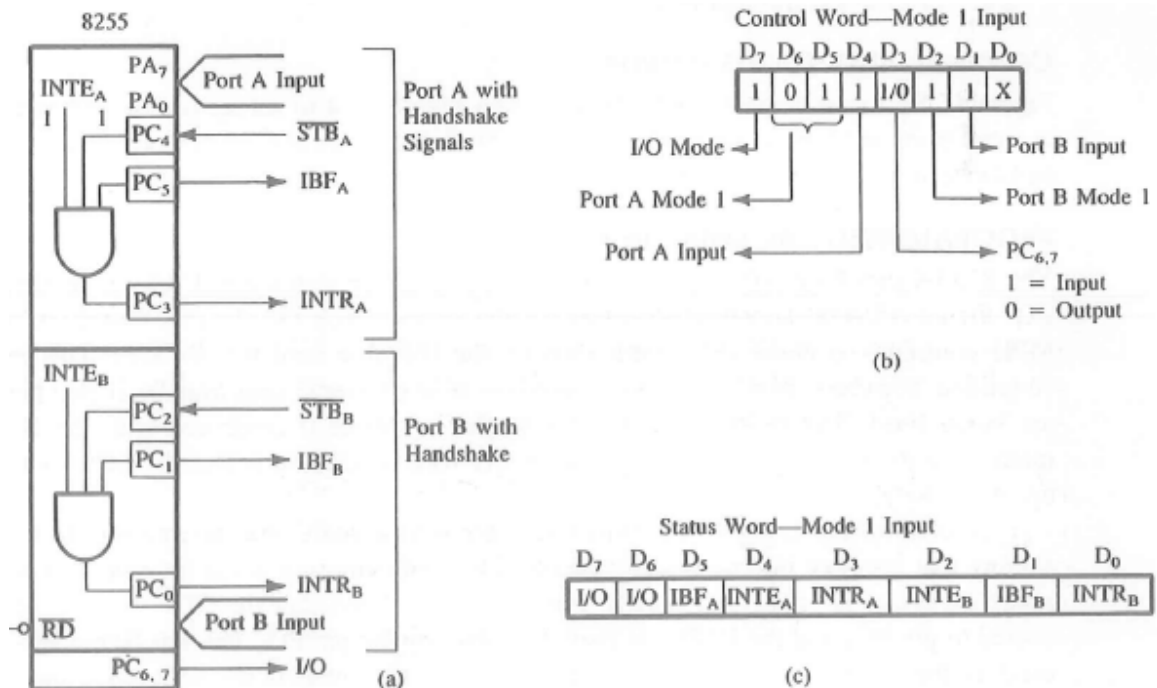

Figure 3.6 Mode 1: Input Configuration
- ❖ Figure 3.6 (a) shows the associated control signals used for handshaking when ports A and B are configured as input ports.